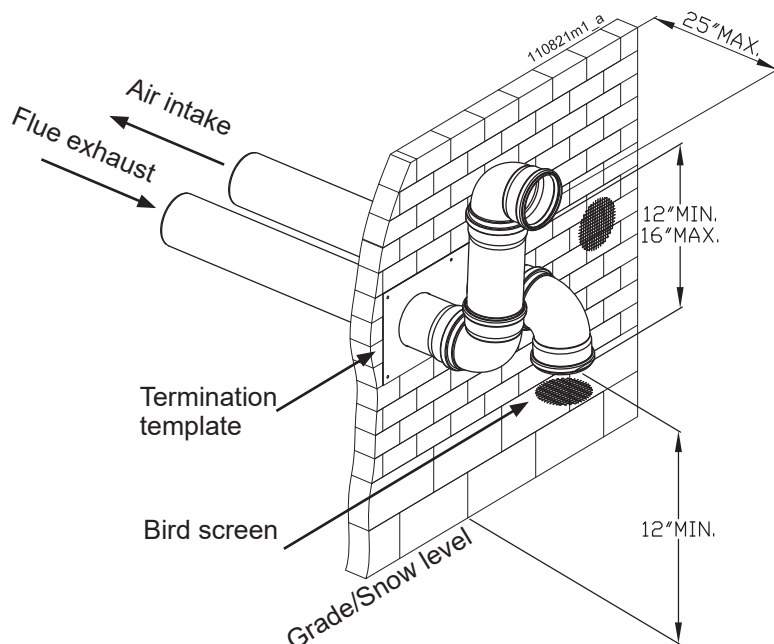

Figure 11-15 Two pipes sidewall termination of air and vent
- 3.- The vent piping must terminate in an elbow pointed outward as shown in Figures 11-15 or 11-16 or in a roof as shown in Figure 11-22;
Do not exceed the maximum lengths of the outside vent piping shown in Figures 11-15, 11-16 or 11-22. Excessive length exposed to the outside could cause freezing of condensate in the vent pipe, resulting in potential appliance shutdown.
- 3.- The air piping must terminate in a down-turned elbow as shown in Figures 11-15 and 11-16. This arrangement avoids recirculation of flue products into the combustion air stream;
- 4.- The vent piping must terminate in an elbow pointed outward or away from the air inlet, as shown in Figures 11-15 and 11-16.
Do not exceed the maximum lengths of the outside vent piping shown in Figures 11-15 and 11-16. Excessive length exposed to the outside could cause freezing of condensate in the vent pipe, resulting in potential appliance shutdown.
- 5.- Maintain clearances as shown in Figures 11-15 and 11-16. Also maintain the following:
- 1.- The air termination coupling must be oriented at least 12 inches above grade or snow line as shown in Figures 11-15 and 11-16;
- 2.- Maintain the required dimensions of the finished termination piping as shown in Figures 11-15 and 11-16;
- 3.- Do not extend exposed vent pipe outside of the building more than what is shown in Figures 11-15 and 11-16. Condensate could freeze and block vent pipe.